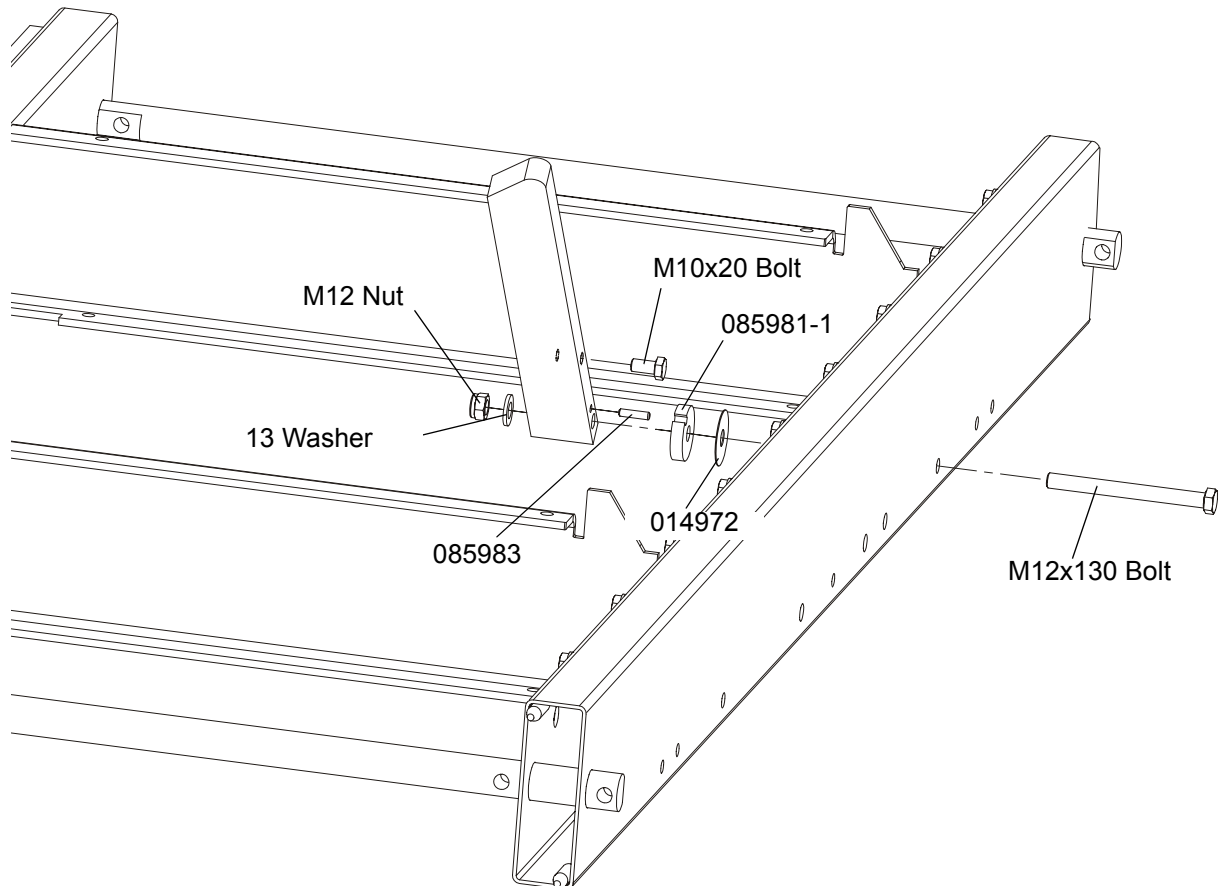

FIG. 2-7
7. Install the log side supports as shown in Figure 2-7. Tighten the nuts so that the side supports can be moved with little resistance. Adjust the side supports. See Section 6.11
See Figure 2-7.